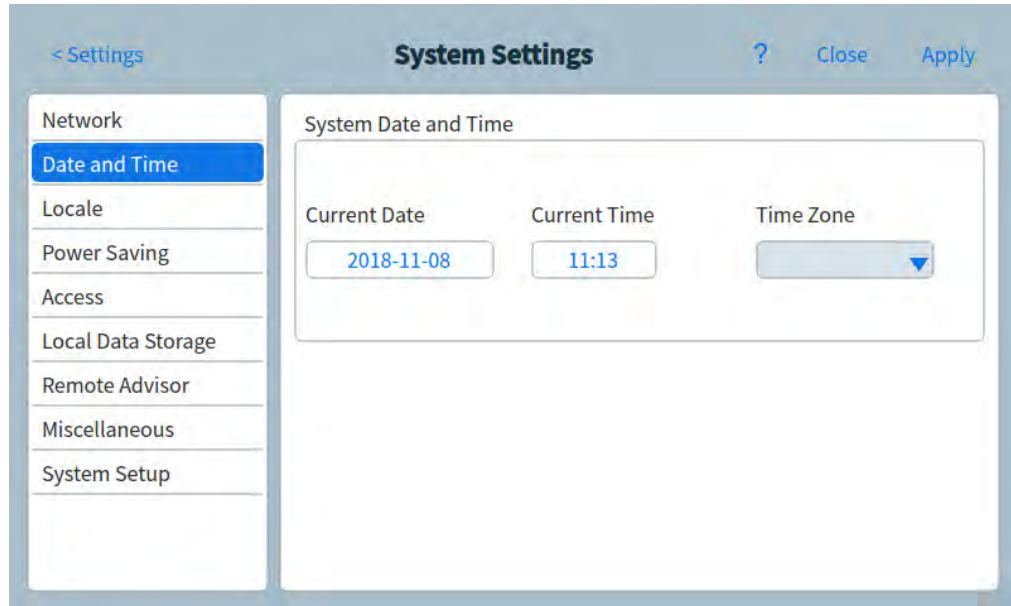

Figure 45. System Settings page
- 1 From the System Settings page, select the **Date and Time** page selection button. The Date and Time page appears. See **Figure 45**.